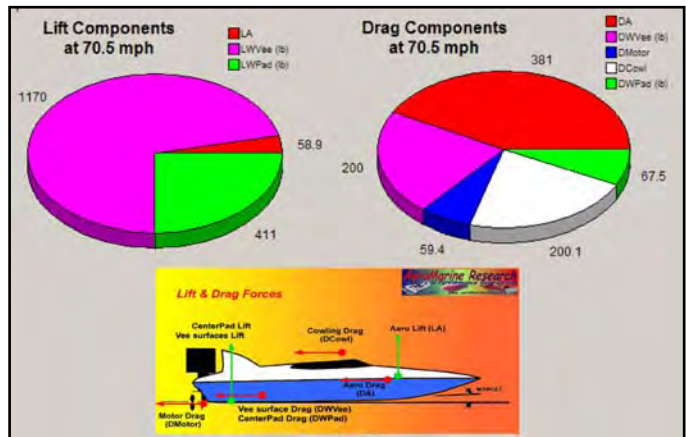

Figure 6 – Lift & Drag distribution of forces
**5. Lift/Drag Distribution** - VBDP© has a unique feature that shows the distribution of lift forces and drag forces by the key contributors of each design feature. For example, it can be seen (Figure 6 on page 5, below) that at 70 mph, the 150hp Charger 16DL hull gets 1170lbs (71%) of it's lift from vee planing surface; 411lbs (25%) lift from the vee-pad surface and 59lbs (4%) of it's